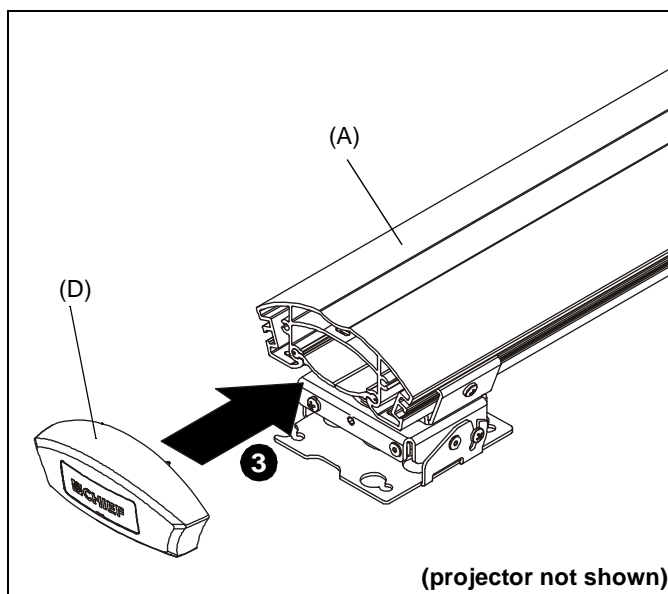

Figure 19
3. Add end cap (D) to end of short throw projector arm (A). (See Figure 19)